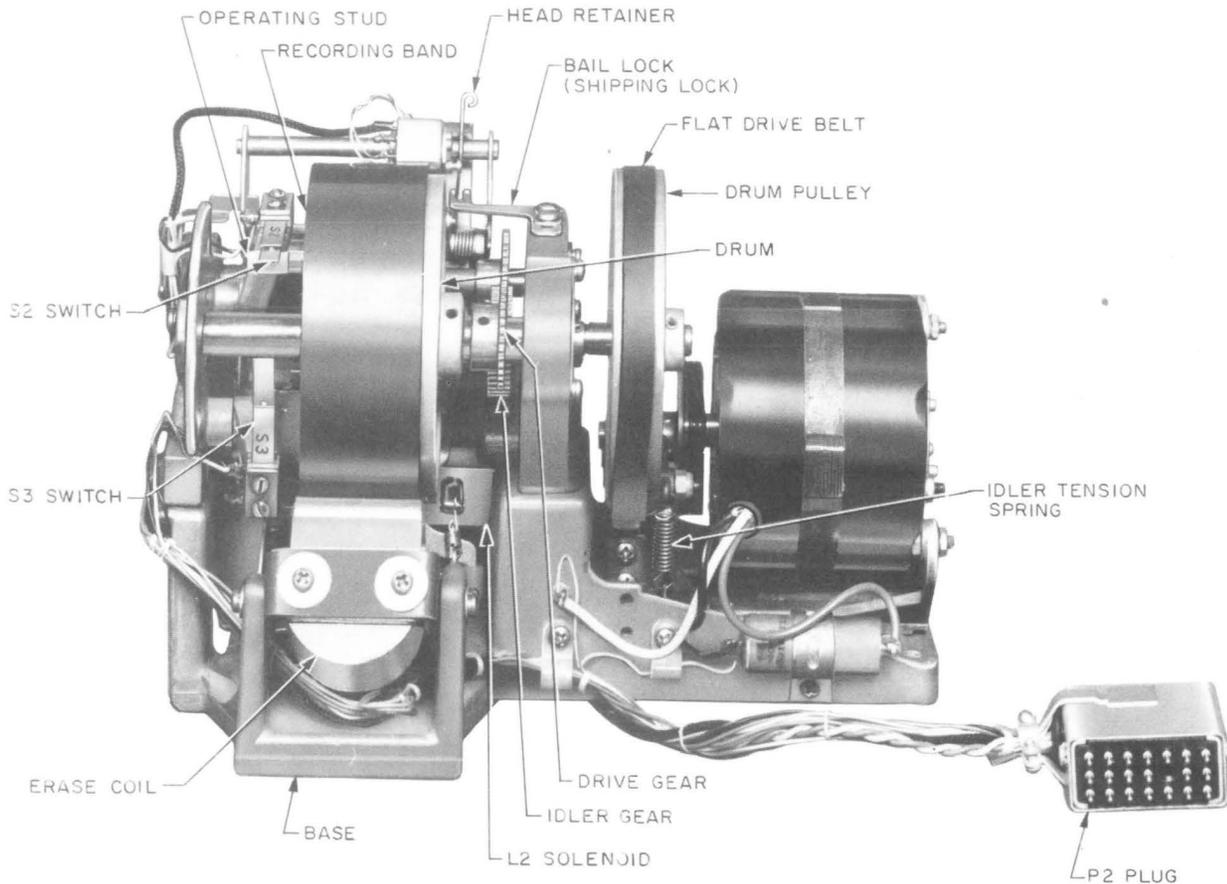

Fig. 3—KS-16765 L3 Recorder—Rear View (Later Type Shown)
- (c) **Flat Drive Belt:** The drive belt (Fig. 3) and drive surface of pulleys shall be free of oil, dirt, or other foreign matter. Gauge by eye.
(d) **Recording Band:** The recording band shall be cleaned and lubricated every 3 months. The surface of the recording band (Fig. 3) shall be free from dust and foreign material and the entire surface shall have a polished appearance. Gauge by eye.
- (b) In the unoperated position, S2 and S3 switch (Fig. 3) contacts shall have a separation between contacts of